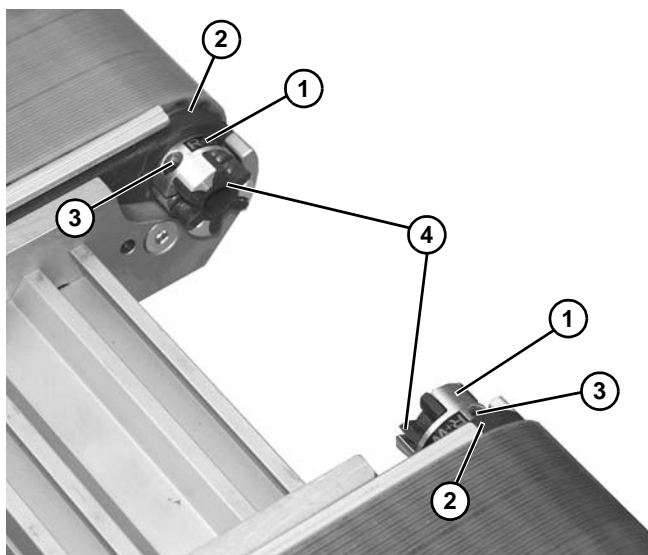

Figure 27
5. Separate and install outer portion of 3-jaw coupling (**Figure 27, item 1**) onto shaft portion of each end of conveyor.
When securing inner portion of 3-jaw coupling (**Figure 27, item 1**) Maintain 0.30 - 0.60 in. clearance from headplates (**Figure 27, item 2**).
6. Tighten clamp screws (**Figure 27, item 3**) to 17 in-lb (2 Nm) to secure outer portion position of 3-jaw coupler.
7. Install 3-jaw spider (**Figure 27, item 4**) into each end of outer portion of 3-jaw coupling.